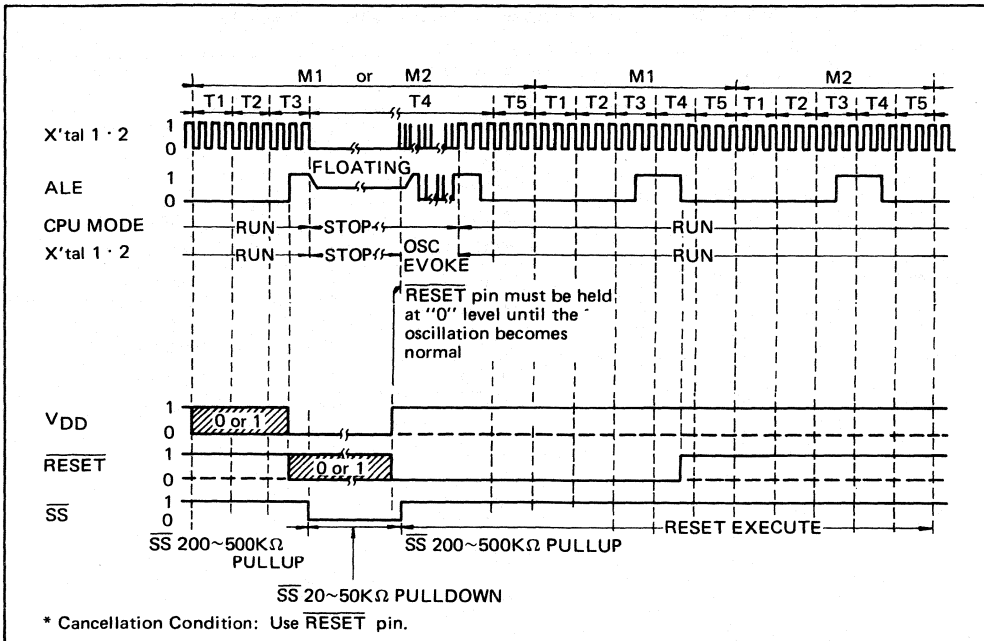

Fig. 4-5 Hardware Power-Down Mode Timing Chart
- (1) Use of $\overline{\text{RESET}}$ pin
- The clock generator is activated and the CPU started up when a "1" level is applied to the V_{DD} pin while a "0" level is input to the $\overline{\text{RESET}}$ pin. If this "0" level is kept applied to the $\overline{\text{RESET}}$ pin until oscillation become stable, the CPU will be reset and will start executing from address 0. The timing chart is outlined in Fig. 4-5.
- (2) Use of the $\overline{\text{INT}}$ pin during external interrupt enabled status (i.e. following execution of EN I instruction)